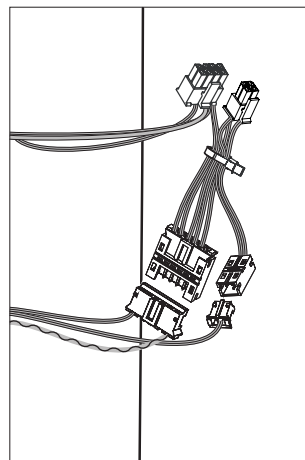

Fig. 6B
2. Connect 6- and 2-pin connectors from device to 6- and 2-pin connectors on reader harness (Fig. 6B, C).
4. Install the remaining three (3) mounting screws: 8-32 x 5/8 Fillister for metal doors or #8 x 5/8 self-tapping Fillister for wood doors.
5. Connect 6- and 2-pin connectors from device to 6- and 2-pin connectors on reader harness (Fig. 6B, C in previous step).